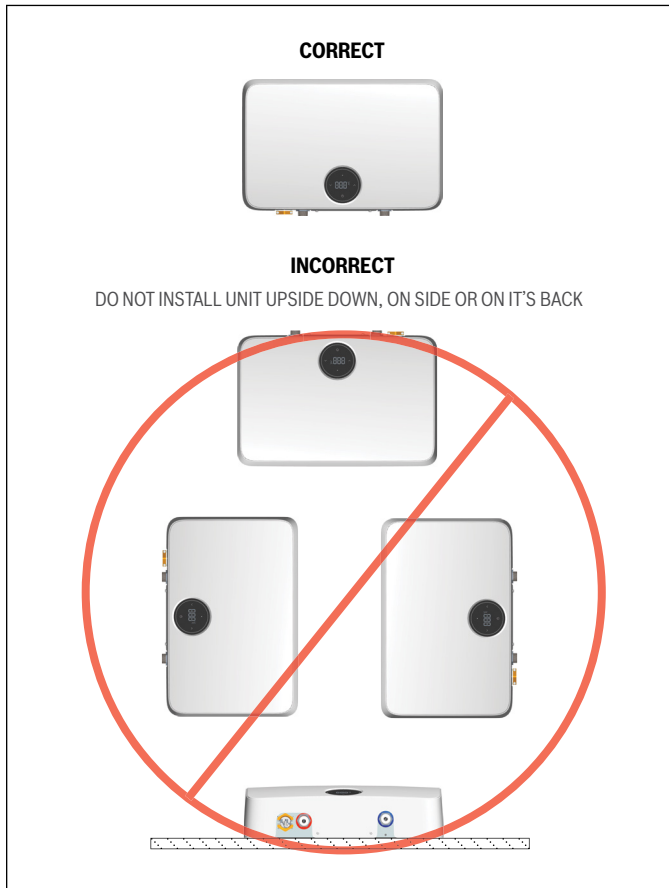

Figure 8
7. The appliance must be mounted upright, with water inlets and outlets at the bottom. See Figure 8.